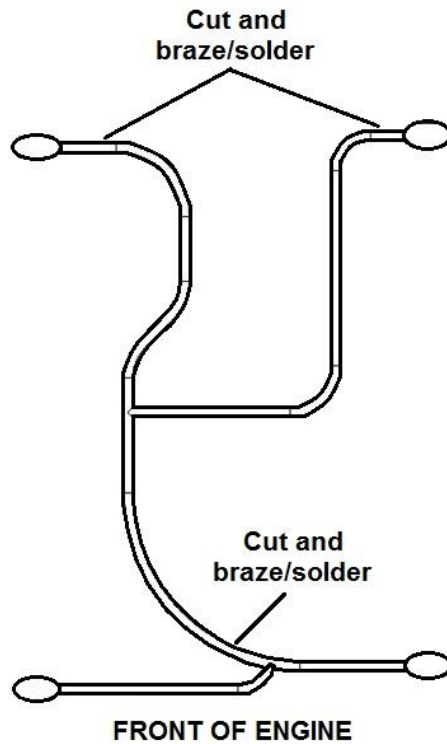

Figure 1
1. LS6 engines do not need modification to the valley coolant tubes. 2000 and earlier LS1 engines do need modification. If you want to use the LS6 parts on your LS1 engine, call your local GM dealer for current part numbers for the front crossover and the rear plugs. The rear plugs are called the LS6 head water cover and you will need a quantity of 2. If you want to use your stock coolant tubes, you can cut, flatten, fold, and braze/solder the coolant lines, as shown in Figure 1.